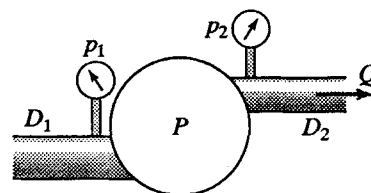

Figure P15.1
- 15.2 The diameter of the discharge side of a pump is 6 in, and that of the intake pipe is 8 in (Fig. P15.1). The pressure gage at discharge reads 30 psi, and the vacuum gage at intake reads 10 inHg. If  $Q = 3.0$  cfs of water and the brake horsepower is 35.0, find the efficiency of the pump. The intake and discharge are at the same elevation.